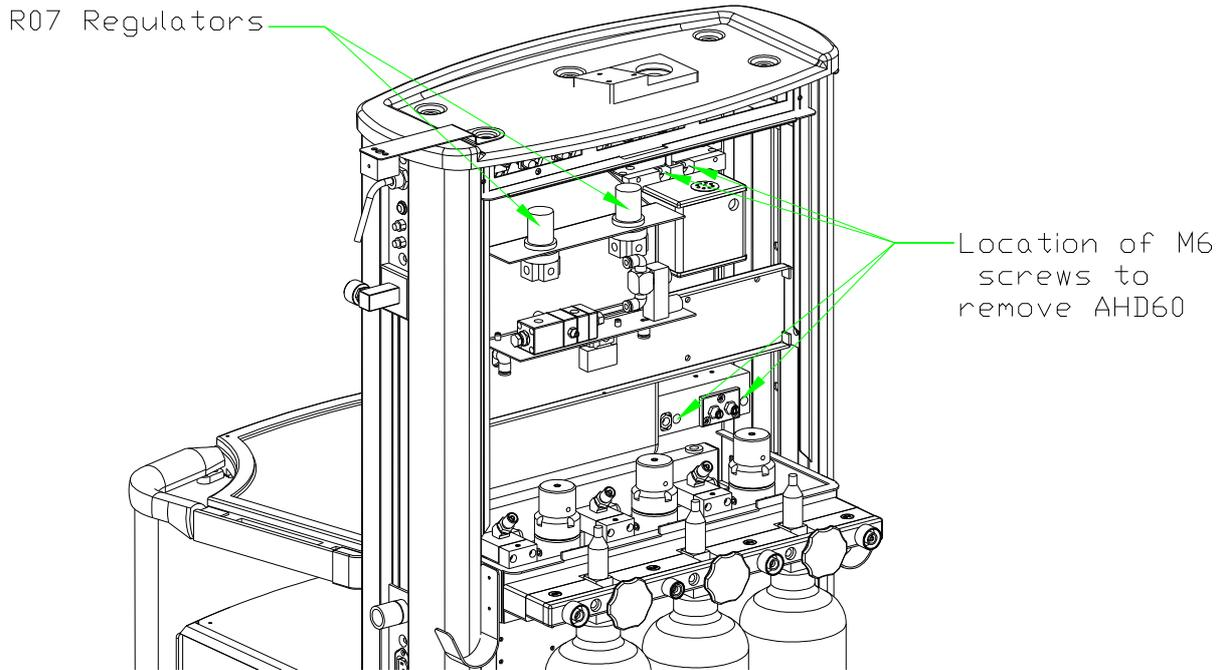
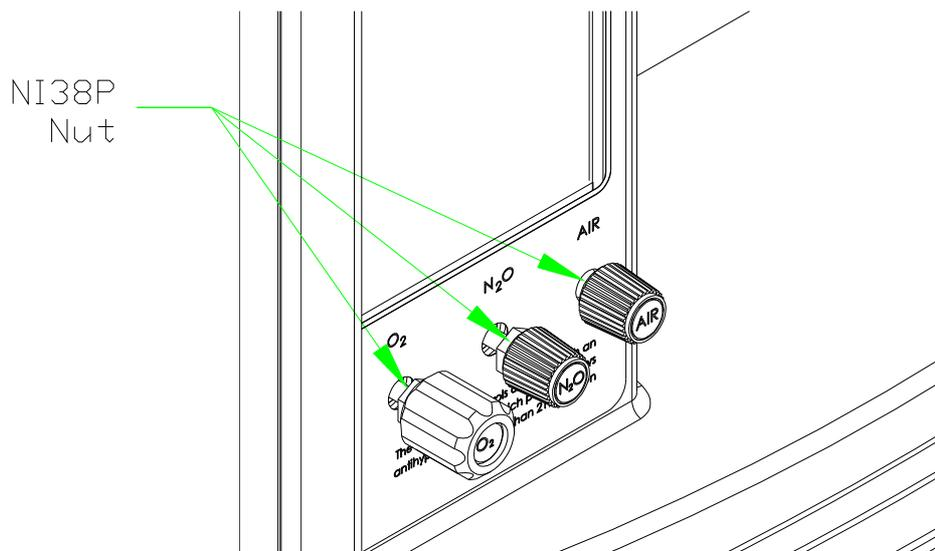
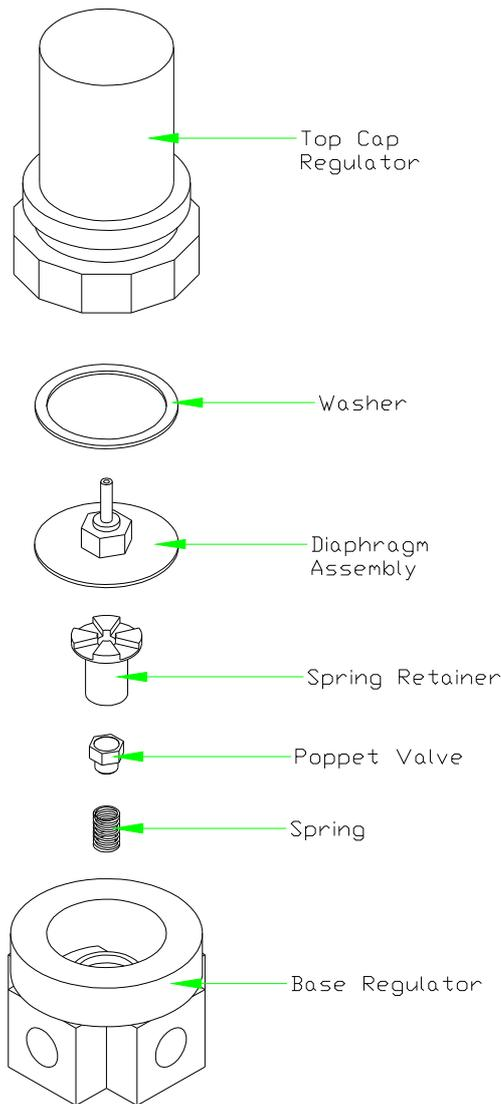

Figure 21: Location of AHD60 Anti hypoxic device and R07 regulators
Figure 22: Knobs on front of AHD60 Anti hypoxic device
Figure 24: Exploded view of R07 Regulator
3. Replacement of o-rings from the flow meter or the flow meter tubes, we must remove the AHD60 from the anaesthesia workstation. Refer to Figure 21 and Figure 22.
- h. Install the AHD60 into the machine by screwing the M6 bolts on the back of the AHD60 anti hypoxic device. See Figure 21.
- i. Screw the nut NI38P by using a 9/16" spanner. See Figure 22.
5. Replacement of components to be serviced on R07 regulator. Refer to Figure 21 and Figure 24